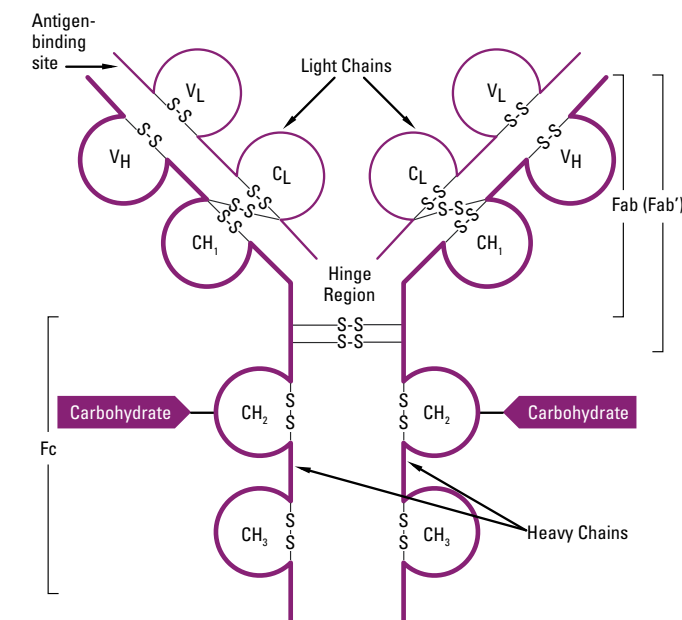

Figure 1. Structure of an immunoglobulin.
Antibody (or immunoglobulin) molecules are glycoproteins composed of one or more units, each containing four polypeptide chains: two identical heavy chains (H) and two identical light chains (L) (Figure 1). The amino terminal ends of the polypeptide chains show considerable variation in amino acid composition and are referred to as the variable (V) regions to distinguish them from the relatively constant (C) regions. Each L chain consists of one variable domain VL and one constant domain CL. The H chains consist of a variable domain, VH, and three constant domains CH1, CH2 and CH3. Each heavy chain has about twice the number of amino acids and MW (~50,000) as each light chain (~25,000), resulting in a total immunoglobulin MW of approximately 150,000.